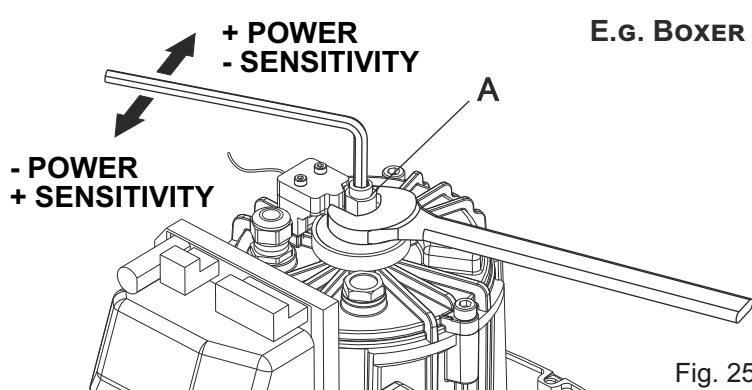

Fig. 25
9.2. To adjust the clutch, act on the grub screw «A» (Fig. 25) as follows: